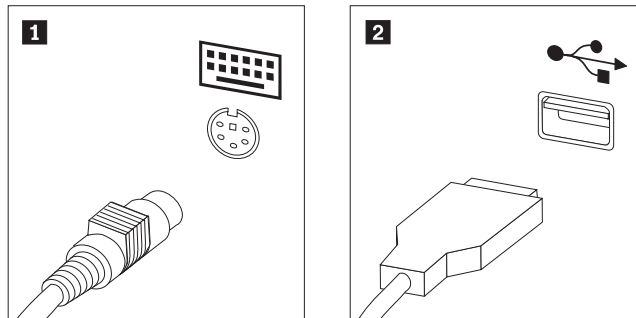

Figure 35. Keyboard connectors, standard and USB
3. Locate the keyboard connector. See Figure 35.